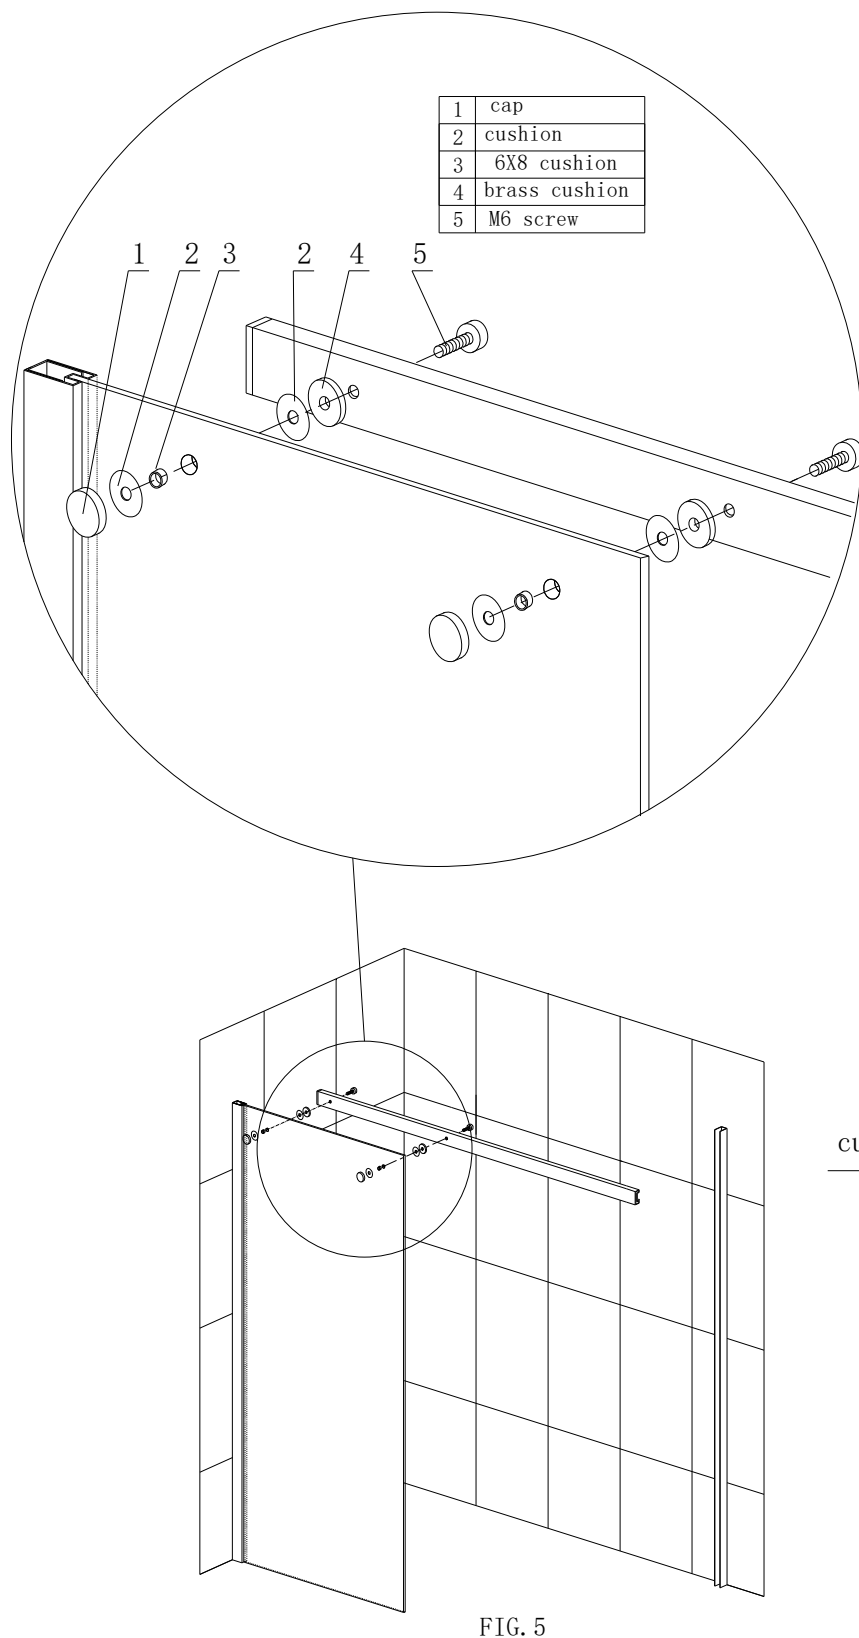

FIG. 5
- 5) Connect the rail (12) and the front fixed glass door (11). As Fig. 5